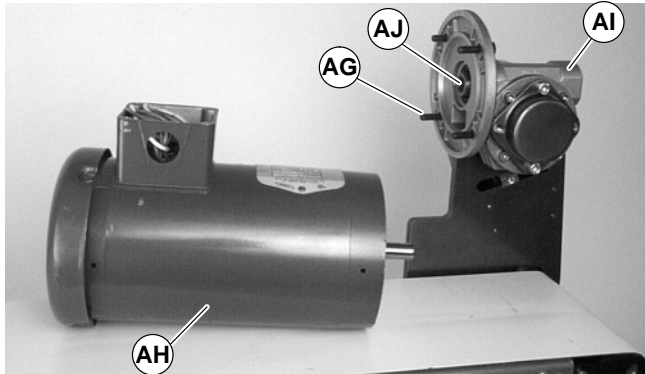

Figure 24
4. Remove four screws (AG of Figure 24). Detach motor (AH) from gear reducer (AI). Retain motor output shaft key (AJ).